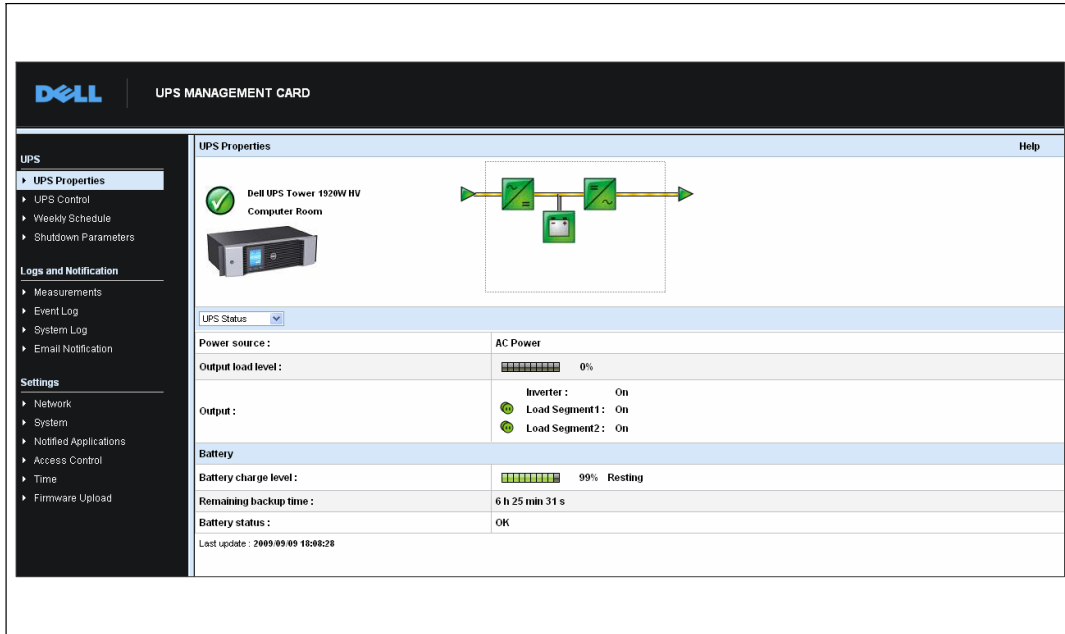

Figure 12. Home Page
- 2 Enter the card's <https://IP address> (IPv4 or IPv6) in the address bar. The home page displays (see Figure 12).